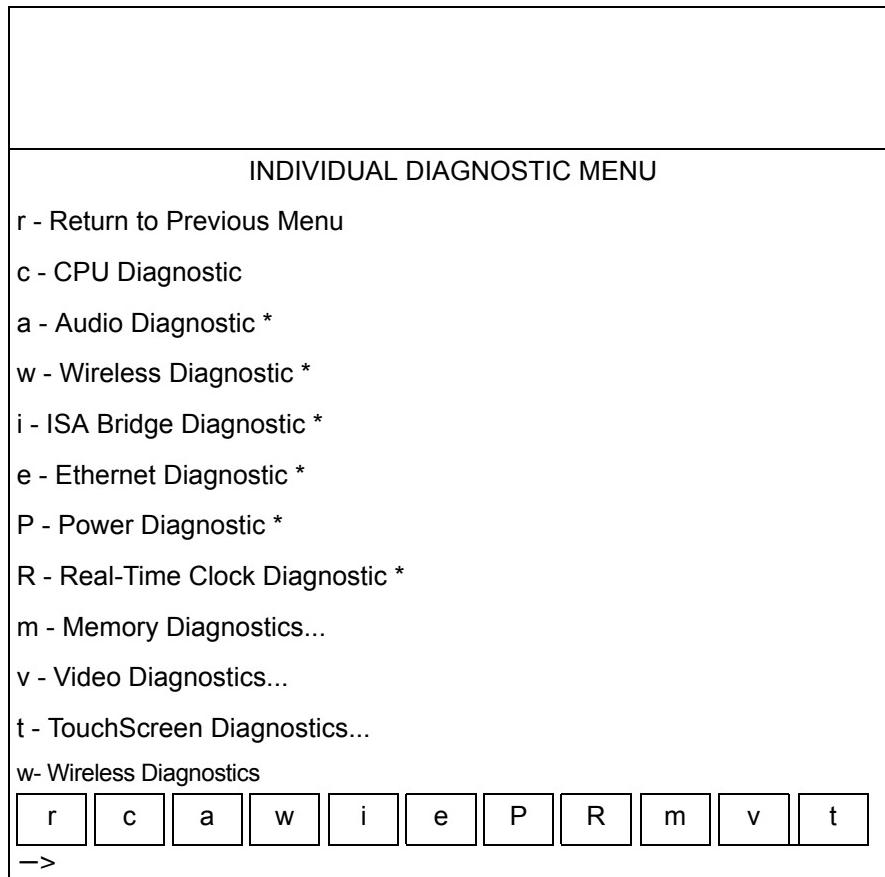

Figure 5-6: Individual Diagnostic menu
- i** — Displays the **Individual Diagnostic** menu (*Figure 5-6*).